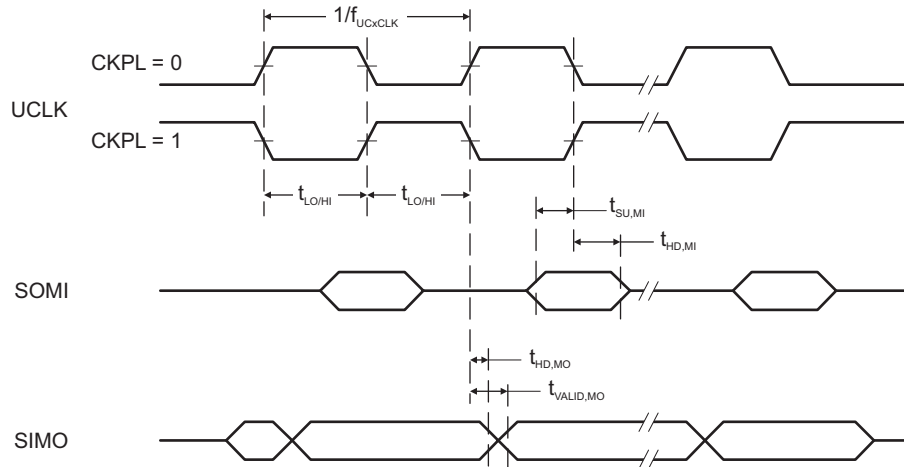
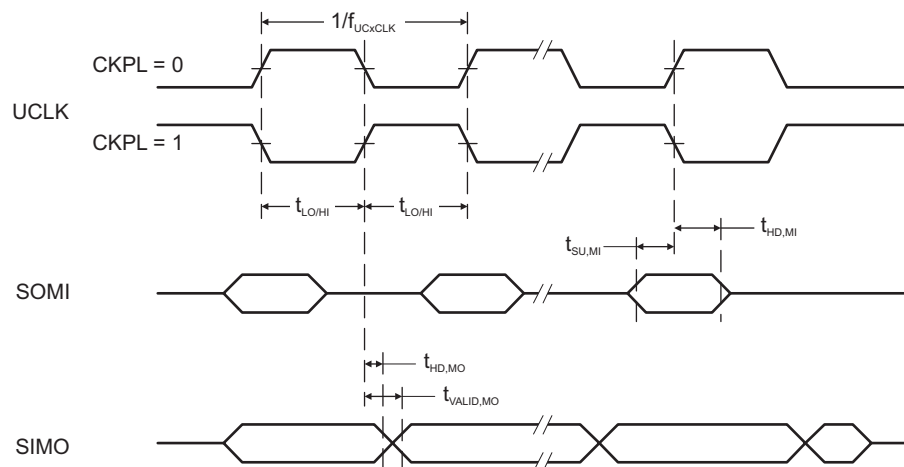

Figure 5-11. SPI Master Mode, CKPH = 0
Figure 5-12. SPI Master Mode, CKPH = 1
(1) Pulses on the UART receive input (UCxRX) shorter than the UART receive deglitch time are suppressed. To make sure that pulses are correctly recognized, their duration should exceed the maximum specification of the deglitch time.
**Table 5-19. USCI (SPI Master Mode)**over recommended ranges of supply voltage and operating junction temperature (unless otherwise noted)(1)(see Figure 5-11 and )
(2) Specifies the time to drive the next valid data to the SIMO output after the output changing UCLK clock edge. See the timing diagrams in Figure 5-11 and Figure 5-12.
(3) Specifies how long data on the SIMO output is valid after the output changing UCLK clock edge. Negative values indicate that the data on the SIMO output can become invalid before the output changing clock edge observed on UCLK. See the timing diagrams in Figure 5-11 and Figure 5-12.